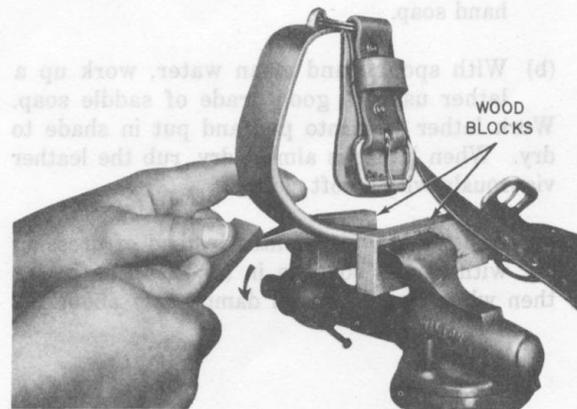

Fig. 20—Using Vise for Honing Gaffs
7.06 When using a vise to hold a climber, always protect the leg iron by placing wood blocks between the vise jaws and the leg irons as shown in Fig. 20. This prevents scoring the leg iron which may weaken it.